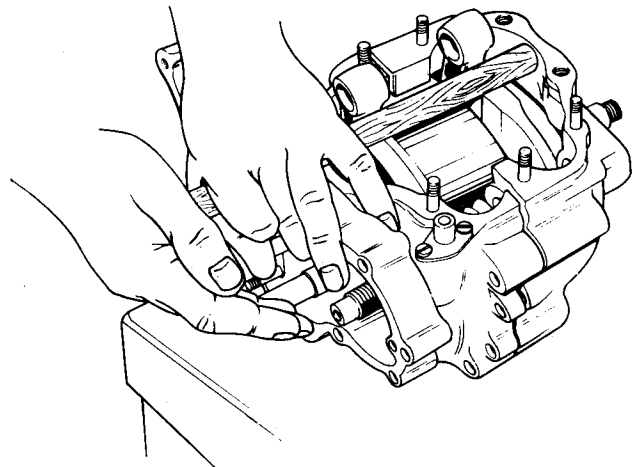

Fig. C25 Parting the crankcases using a wood block against the inner drive side
- 19 Part the crankcases, releasing the crankcase joint by the use of bar of wood against the drive side crankcase as shown in *Fig. C25*.